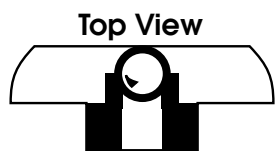
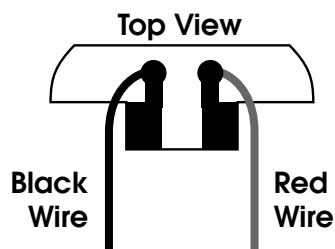

Fig. 1
Fig. 2
- Unsolder bulb from light board without removing insulation tubing (Fig. 1). Use an A unit headlight board for B units. Solder BLACK and RED wires to light board as shown (Fig. 2). Solder WHITE and BLUE wire to bulb (use shrink tubing on each wire). For B unit do not hook up the BLUE or WHITE wires.